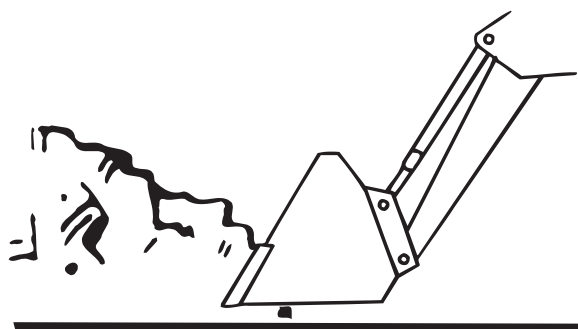

Figure 15
- Approach and enter the pile with a level bucket. See Figure 15.